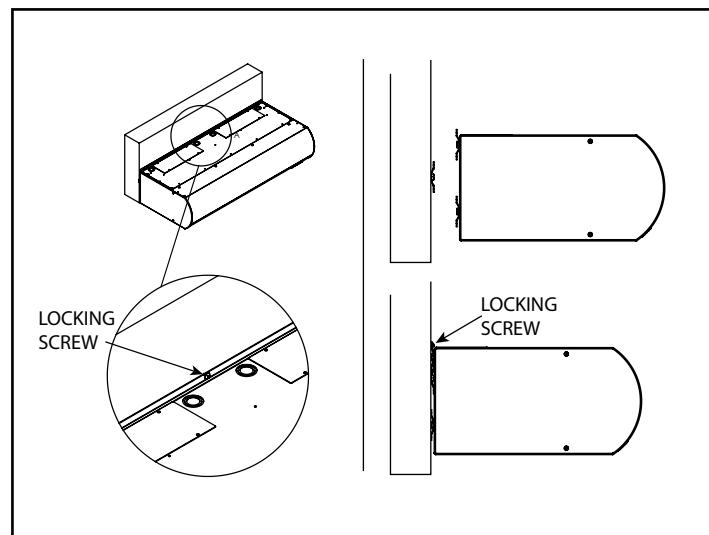

Figure 5 - Wall Mounting Installation
1. Raise the unit over the door (air discharge nozzle facing down) and onto the wall mounting plates. **See Figure 5.**
2. Position the unit against the wall, slide it down so the top wall mounting plate (attached to the unit) interlocks with the wall mounting plate that is attached to the wall. Add one locking screw in the top middle of the wall mounting plate. **See Figure 5.**